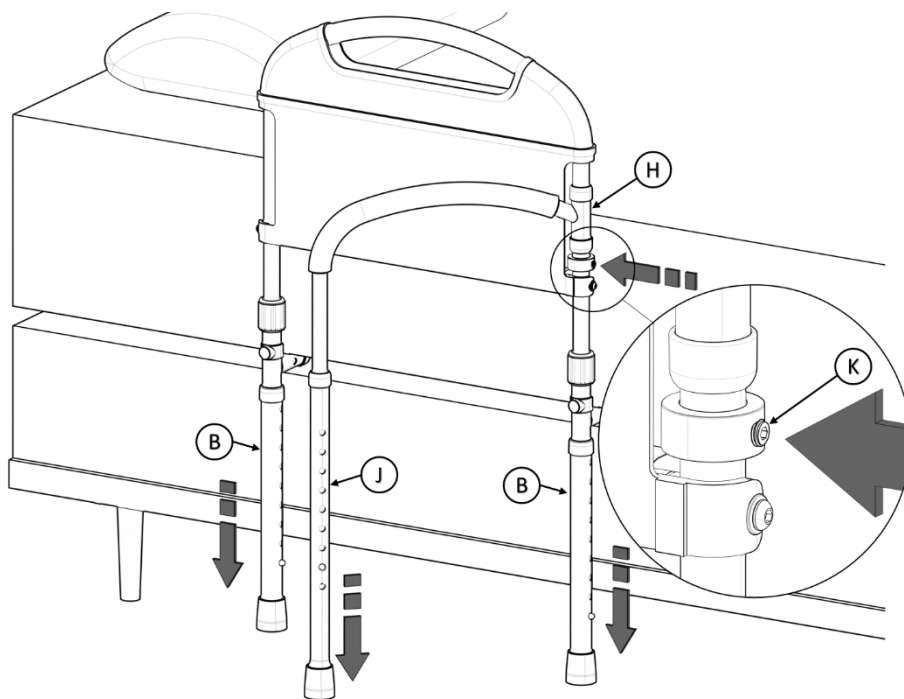

FIGURE 7
7. Slide B and J to the floor as shown in *FIGURE 7*. Allow the spring pins to engage one of the holes in B and J. Once J is positioned, H will be at the correct height, slide K to the base of H and tighten the screw with the tool provided (N).